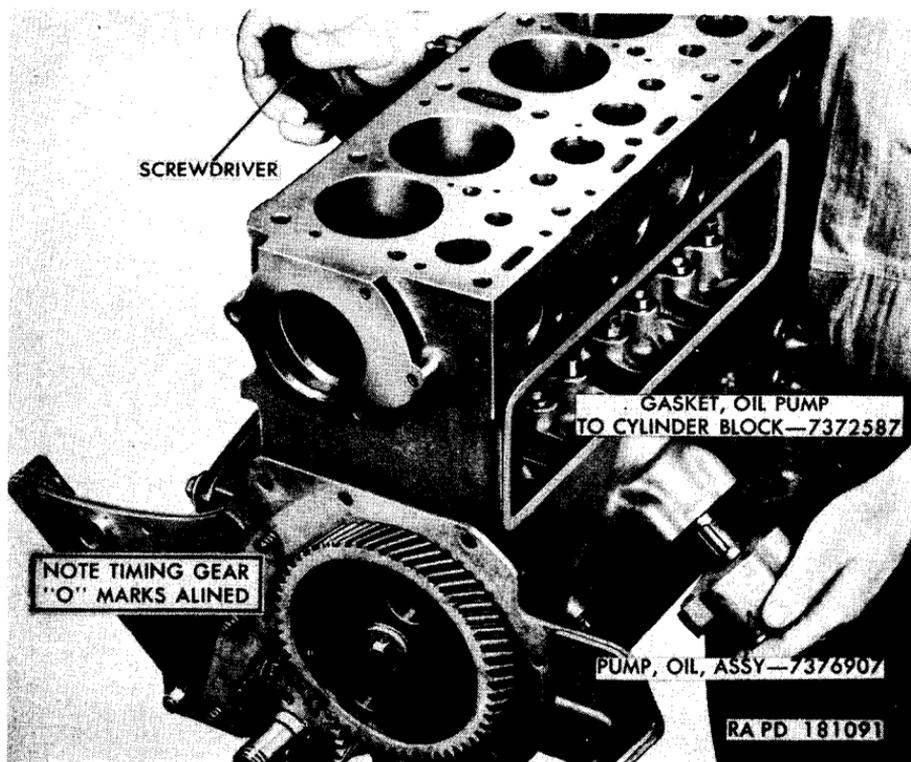
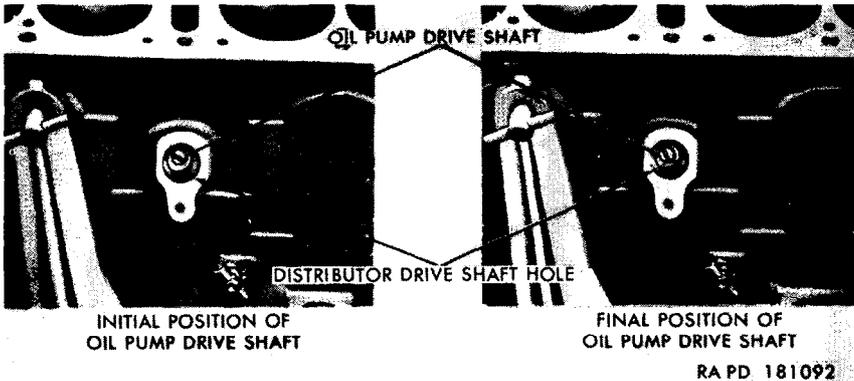

Figure 80. Installing oil pump assembly.
Figure 81. Initial and final positions of oil pump drive shaft.
d. Insert a long blade screwdriver (fig. 80) into the distributor shaft opening on the opposite side of the block and engage the end of the oil pump shaft. Turn the shaft so that the slot is positioned at what would be the rough equivalent of the **nine thirty** position on a clock face (fig. 81), with the wider edge of the slot on top (nearer the top of the cylinder block).
face (fig. 81) with the wider edge of the slot still on the top side. If the slot is improperly positioned, remove the oil pump assembly and repeat operations *d* and *e* above.